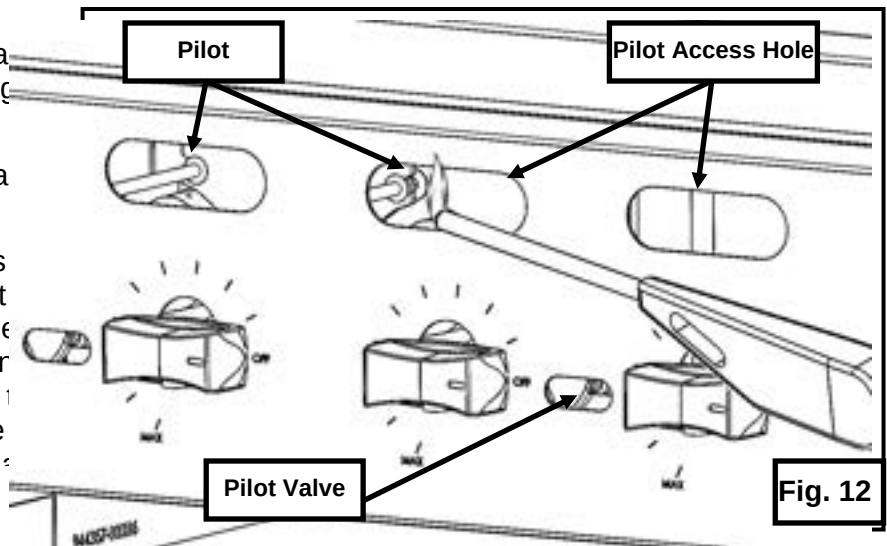

Fig. 12
3. Light each pilot using an outside ignition source. Pass the ignition source through the pilot access hole in the front panel and ignite the pilot (Fig. 12). The end of the ignition source will need to be at least 7" long so it can extend past the